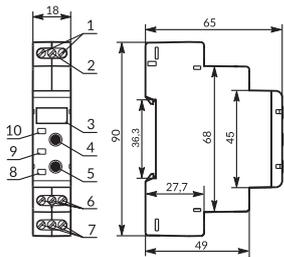

Figure 1
Energize the product. On the front panel of the article, press and hold simultaneously the buttons (UP) and (DOWN), after 3 s the indicator prg (Fig. 1 it.8) is on and the display shows the first parameter of main menu (Pr-9), release the buttons.
After the power supply the indicator ON (Fig.1 it.10) is on and the product begins to operate according to the User-selected mode (see "Product operation modes"), displaying the remaining time to turn on (off) the load relay.